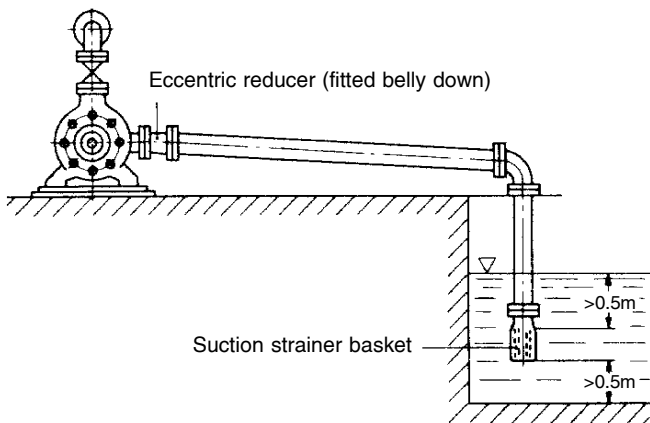

Fig. 4 Suction lift line
The pipe line connected to the suction casing (106) is called either a suction lift line or a (positive) suction head line, depending on whether the pressure at the pump inlet is below or above atmospheric pressure. This line should be kept as short as possible. (see Figs. 4 and 5)
Suction lift lines should rise all the way towards the pump, they should also be absolutely leak tight and be laid in such a way as to prevent the formation of air pockets at any point. (see Fig. 4)